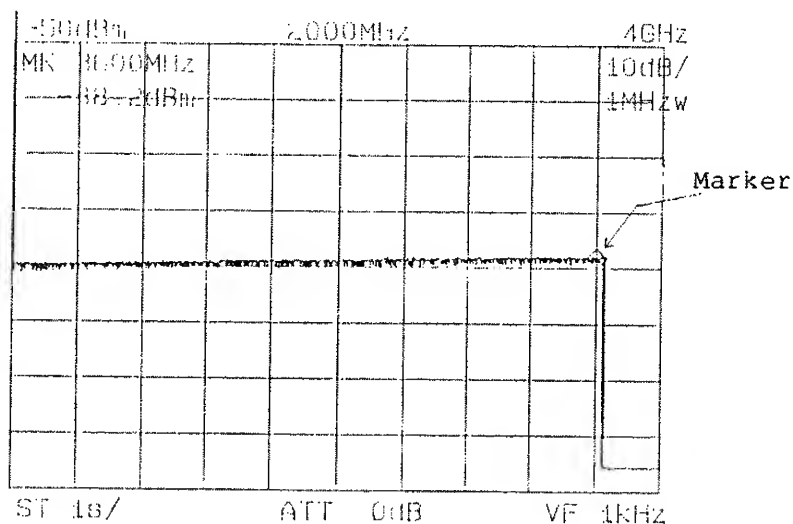

Figure 11-21 Maximum Noise
② Turning the TUNING dial, position the marker at the maximum noise level point. (See Figure 11-21)
- ③ Press the MKR→CF switch. (Set the center frequency to the marker frequency.) Set the frequency span to zero span and set the resolution bandwidth to 1 kHz.